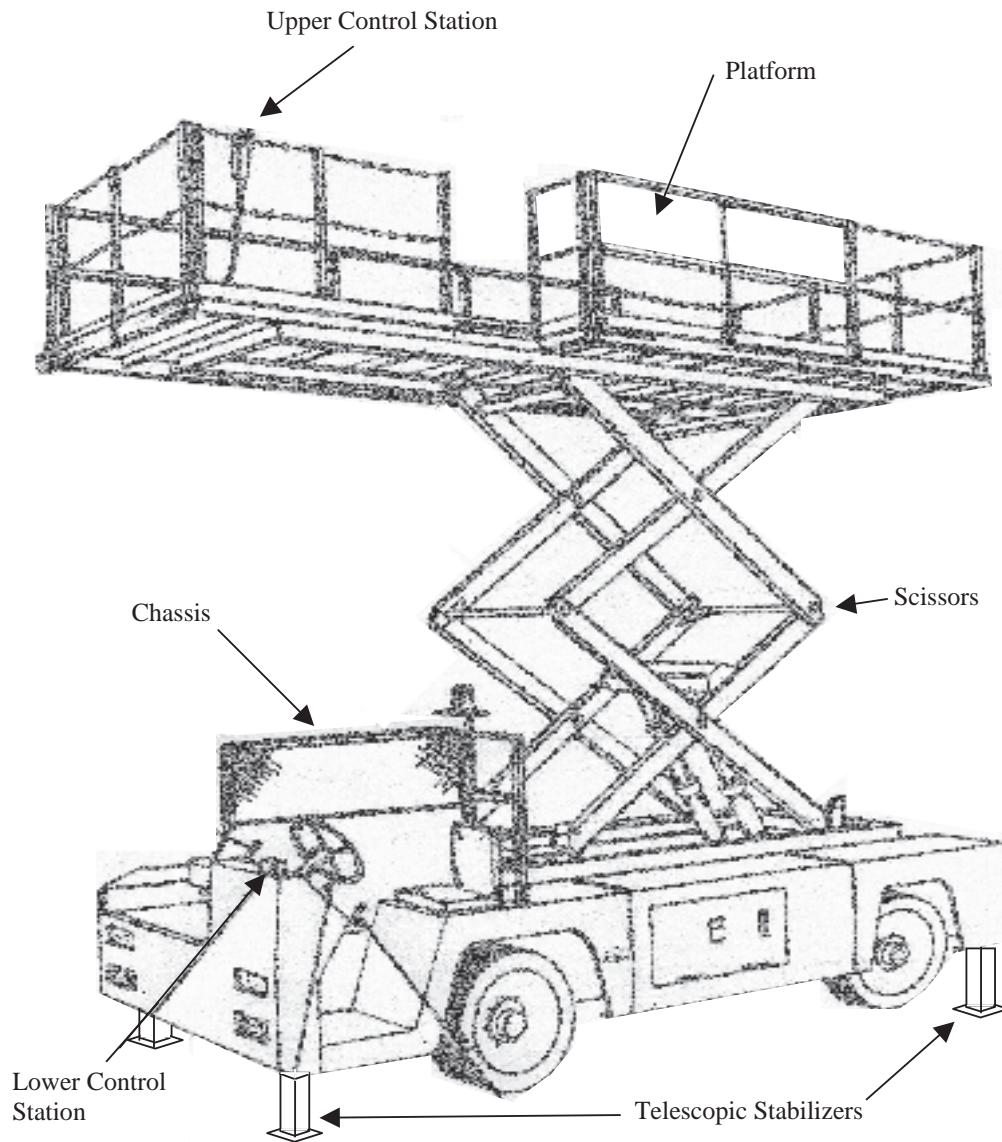

Figure 1
3. MAJOR COMPONENTS (Figure 1)**A. Chassis**